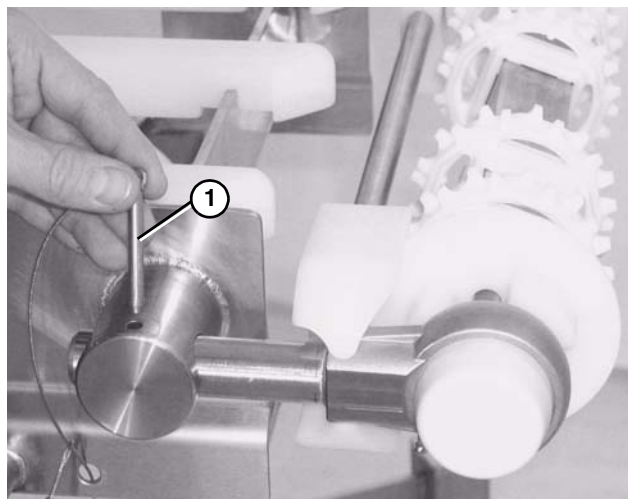

Figure 16
3. Insert the pull pins (Figure 16, item 1).